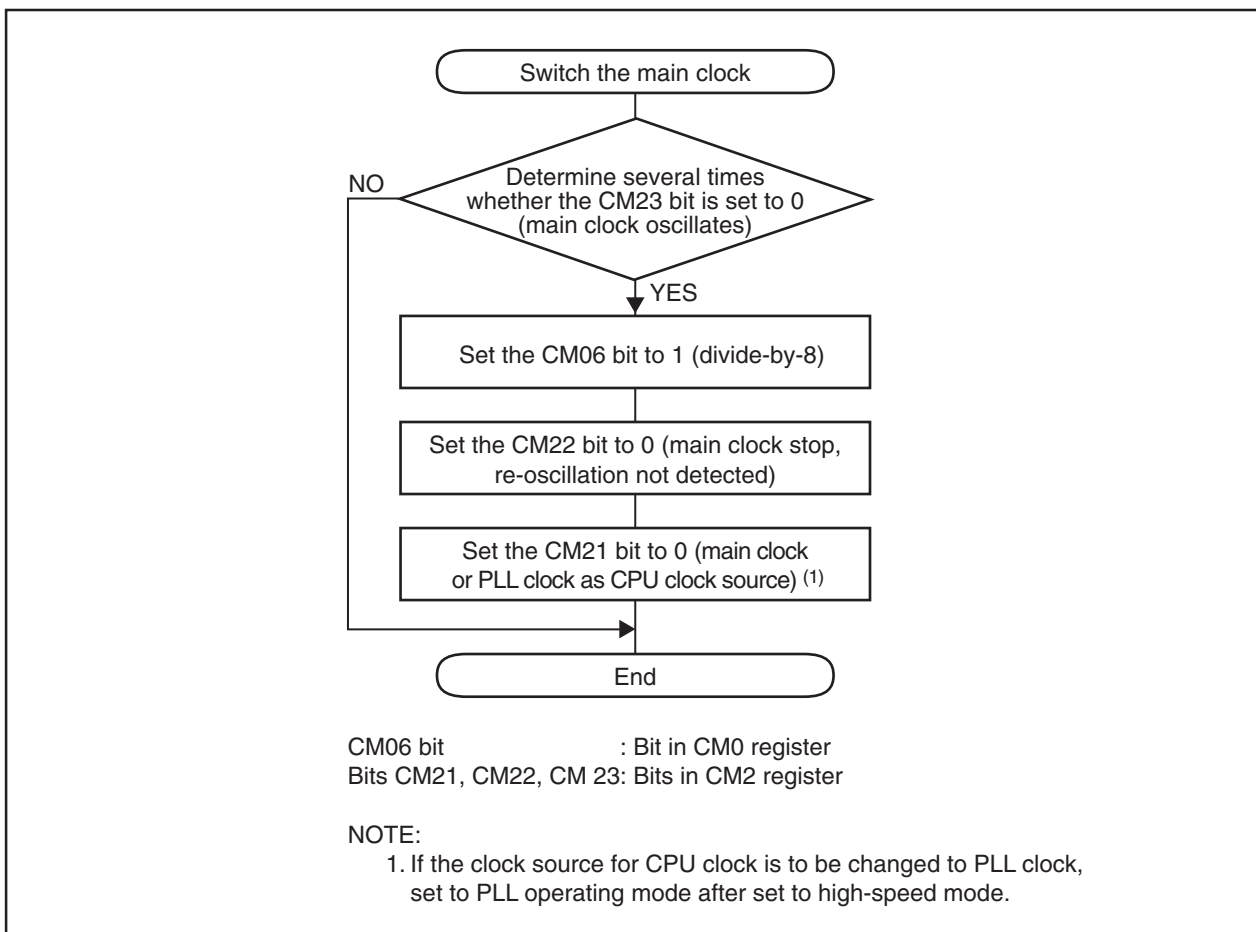

Figure 8.14 Procedure to Switch Clock Source from On-chip Oscillator to Main Clock
- Where the main clock re-oscillated after oscillation stop, the clock source for the CPU clock and peripheral function must be switched to the main clock in the program. Figure 8.14 shows the Procedure to Switch Clock Source from On-chip Oscillator to Main Clock.